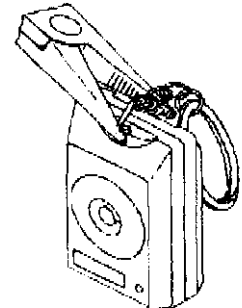

Figure 4. Key-ring Installation
- E. Slip the key-ring triangle through the last link of the keying chain and install the triangle into the hole on the top of the MCT-231 (Fig. 4).